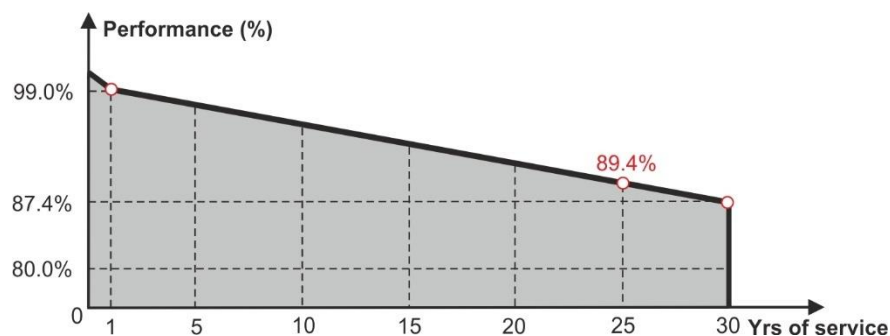

Fig. 23: Example of the Years/Performance curve of a PV module
- On the basis of these values, the instrument automatically calculates the Years/Performance curve (see Fig. 23) from which to derive the performance loss control value % used to calculate the I-V curve (see § 6.4.5)